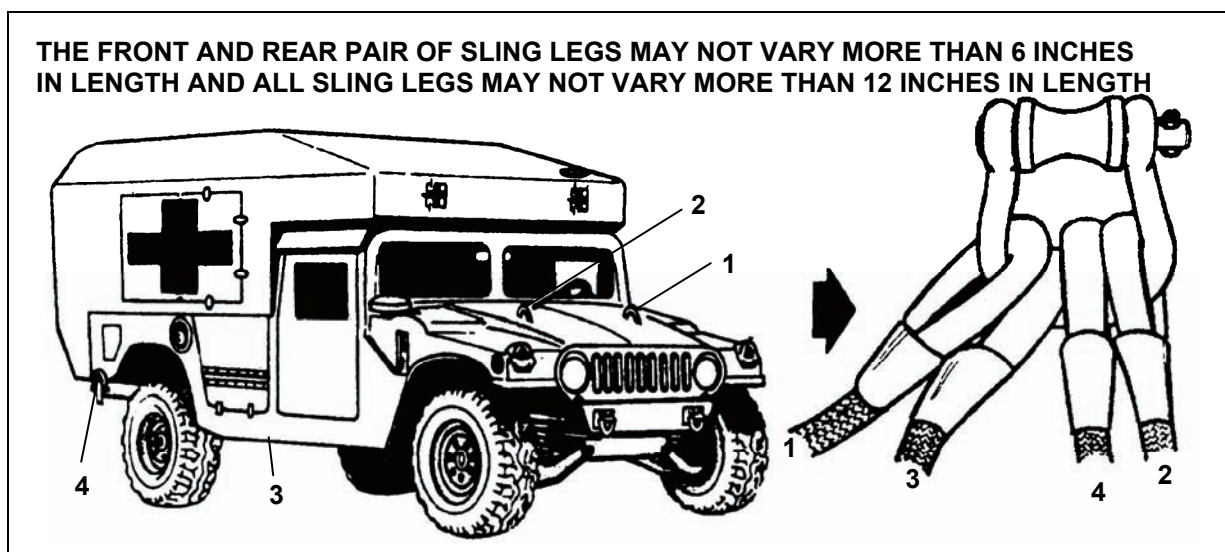

Figure 6-12. Load with Four Lift Points
- Most loads use four lift provisions and four sling legs (Figure 6-12). Each pair of front sling legs (sling legs 1 and 2) may not vary more than 6 inches in length and should be the longest two sling legs of the four. Each pair of rear sling legs (sling legs 3 and 4) may not vary more than 6 inches in length and should be the shortest two sling legs of the four. The difference in length between the shortest and longest sling leg may not exceed 12 inches.